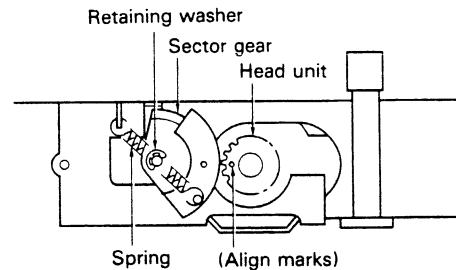

Fig. 8
3. Remove the spring and retaining washer (Figure 8), and remove the sector gear.